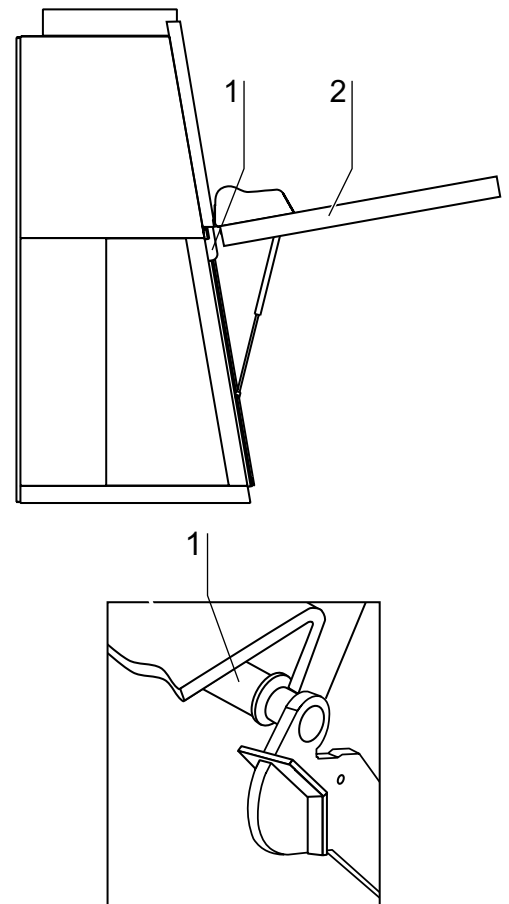

Fig. 27,
**Fig. 27:** The hinge bolts secure the front door [2] to the two hinges [1] of the device frame. The hinge bolts are offset and installed from the inside out into the hinge. To remove the front door, the wiring must be disconnected from any component installed to the front door mounting frame.